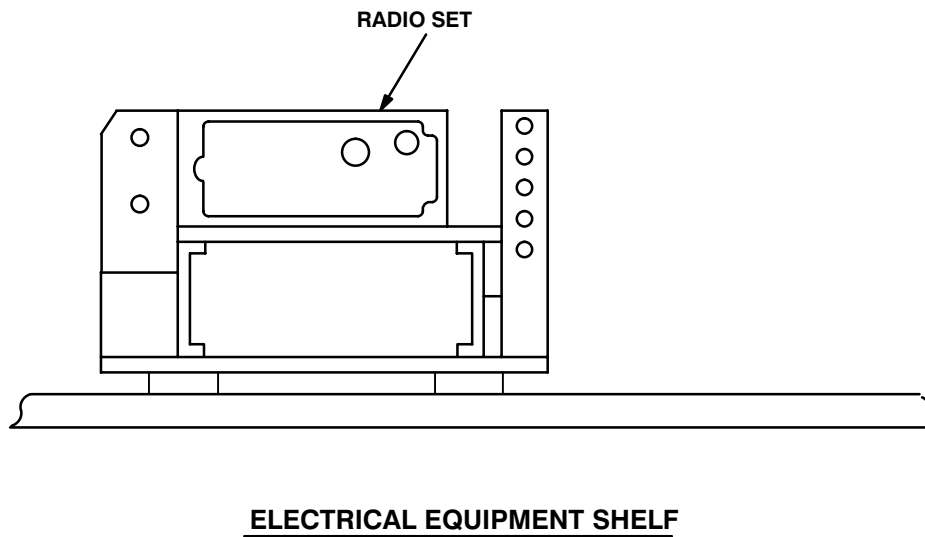

Figure 5-1 (3). MK and Radio Installation: Radio Equipment Locations - M109/M820 Series
5.1 Installation of Antenna AS-3900/VRC (antenna). Use the following procedures to install an antenna on the required vehicle. See figure 5-1 (1) or 5-1 (2) for location.